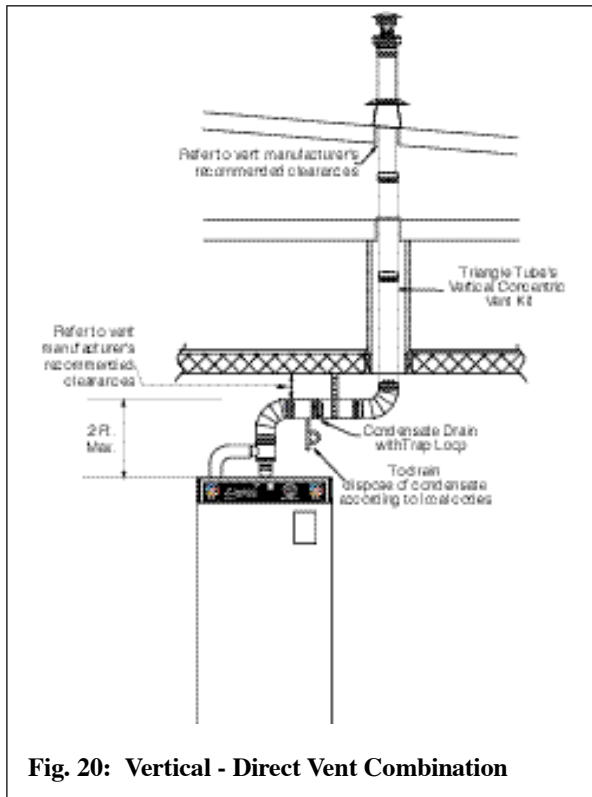

Fig. 20: Vertical - Direct Vent Combination
- a. The vent system should contain a condensate trap located near the unit as shown in Fig. 20, page 33.